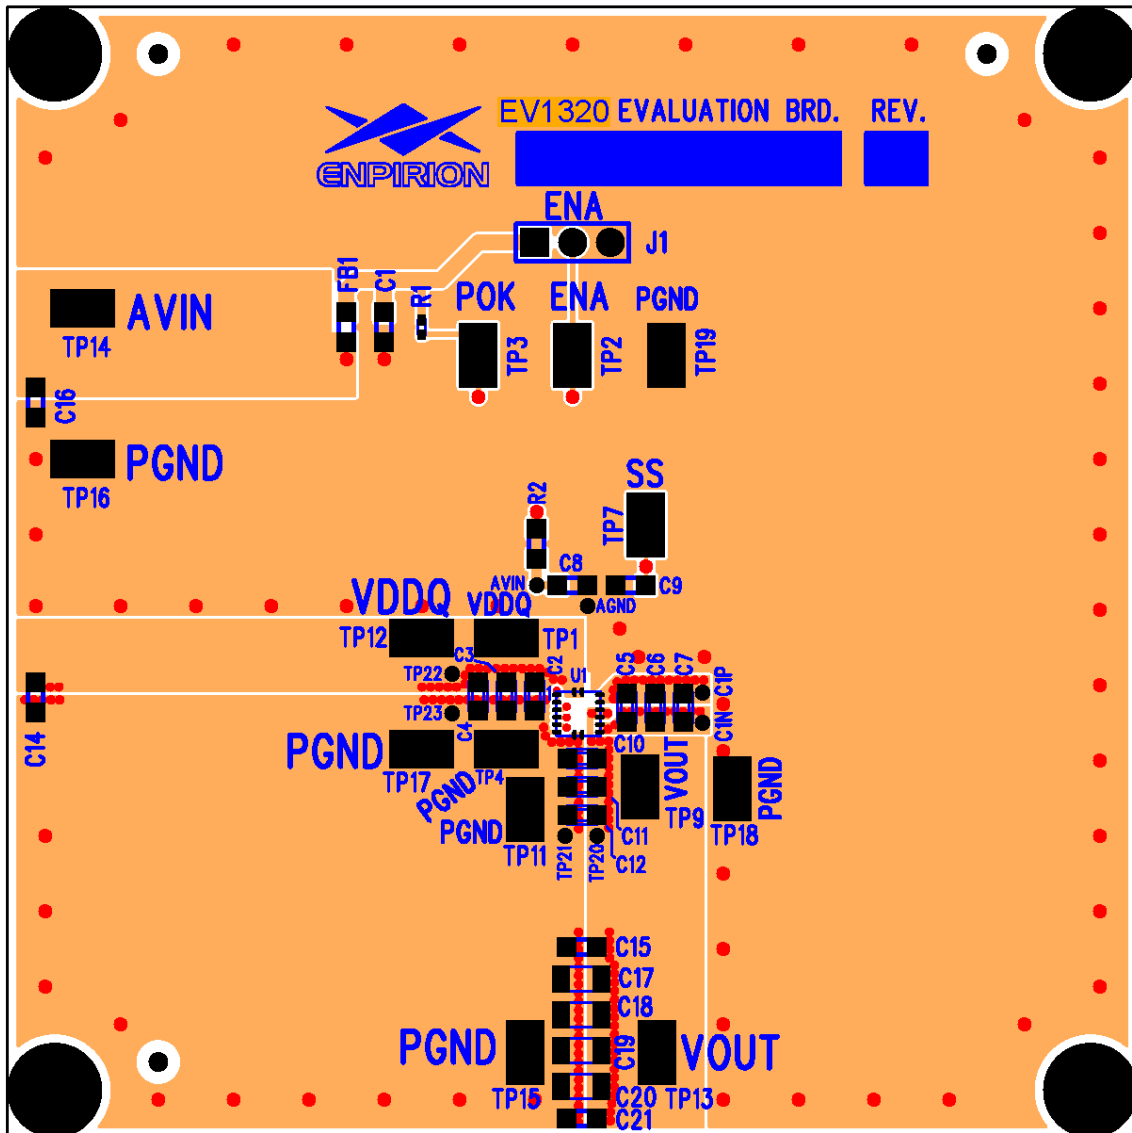

Figure 3: Evaluation Board Top Side Assembly and Copper Layers
STEP 2: With the AVIN power supply off, connect it to the input connectors AVIN (TP14) and PGND (TP16) as indicated in Figure 3 and set the power supply to the desired voltage (3.3V nominal).
STEP 3: With the VDDQ power supply off, connect it to the input power connectors VDDQ (TP12) and PGND (TP17) as indicated in Figure 3, and set the power supply to the desired voltage (1.2V–1.8V).
STEP 4: Connect the load to the output connectors VOUT (TP13) and PGND (TP15), as indicated in Figure 3.